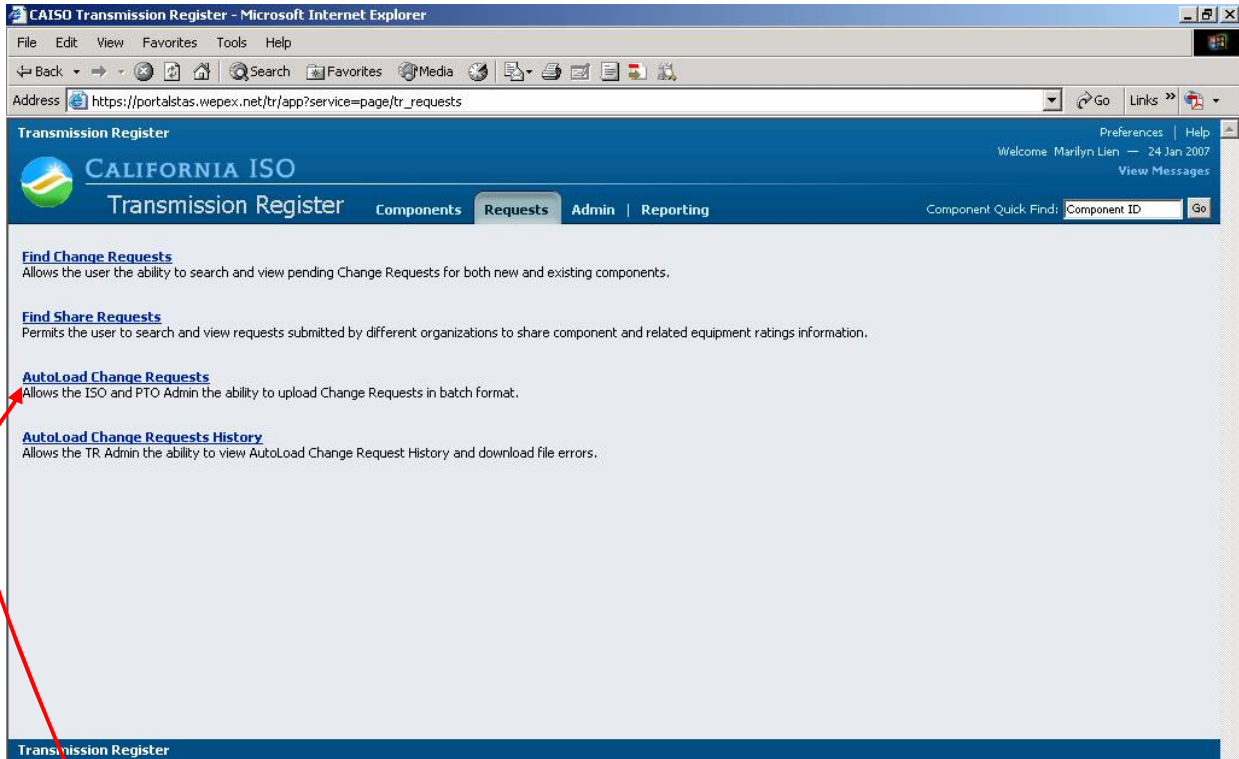

Figure 8. TR Requests Screen
- **Select** the Requests folder tab shown in Figure 8.